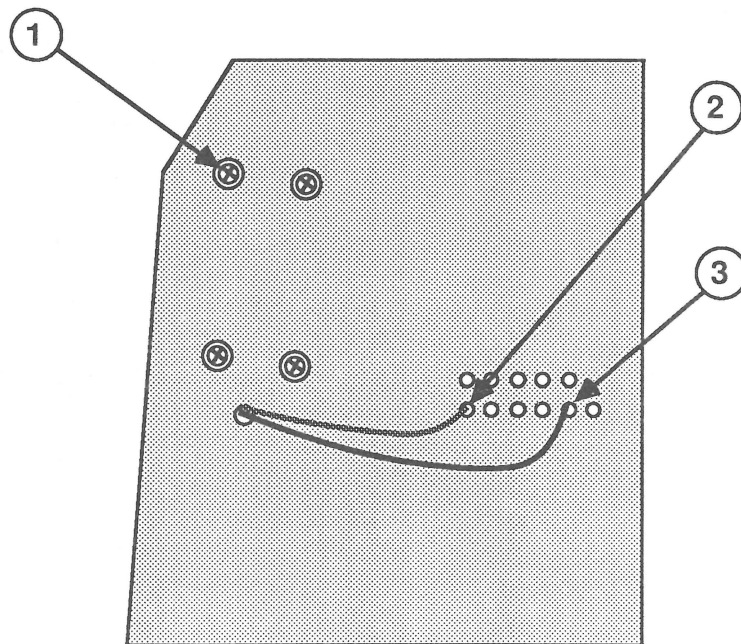

FIGURE 40
2. Holding the fan in place, turn the analog board over and install the four mounting screws (one is shown in Figure 40, #1).
4. On the noncomponent side of the board, solder the black wire to the first lower solder point (Figure 40, #2) of connector P3.
5. On the noncomponent side of the board, solder the yellow wire to the fifth lower solder point (Figure 40, #3) of connector P3.